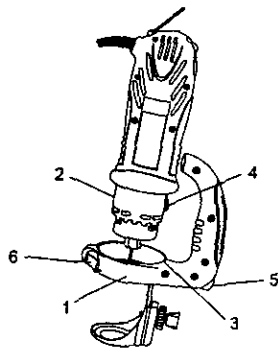

Fig. 10
1. Slide removable handle mounting bracket (1) onto the bottom of motor housing (2) until the slot under the handle (3) lines up with the shaft locking button (4) in the motor housing (see Fig. 10).